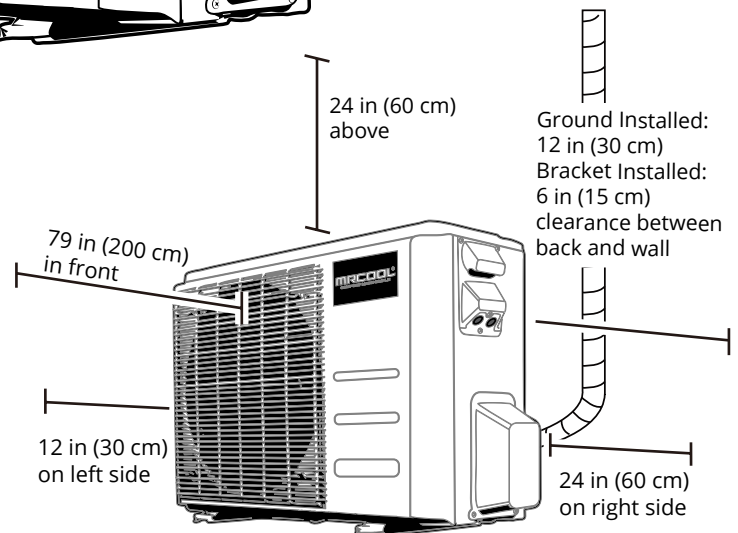

Fig. 5.1
- ☑ Meets all spatial requirements shown in Installation Space Requirements (**Fig. 5.1**).